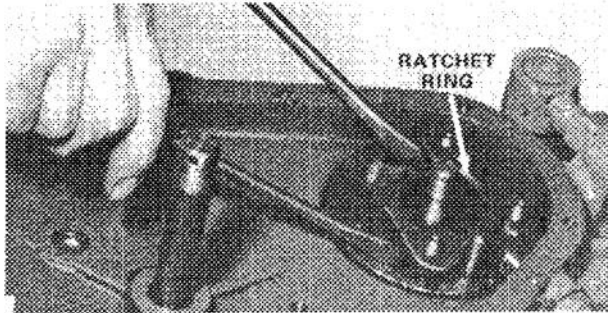

Figure 29
12. Remove the lower compression spring. Disassemble the ratchet ring from the ratchet gear ring by removing three (3) locknuts and prying equally around the ratchet ring (Fig. 29). Be extremely careful to prevent damage to the mating surfaces.